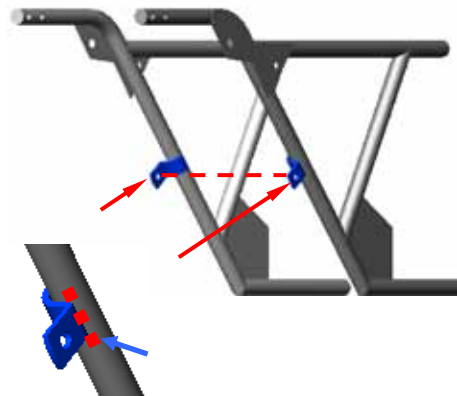

Figure 38
- Prior to installing Body Frame to vehicle, weld the included Body Frame hanger tab to vehicle frame as shown. New tab location should mirror OEM tab on left side of frame. Figure 38